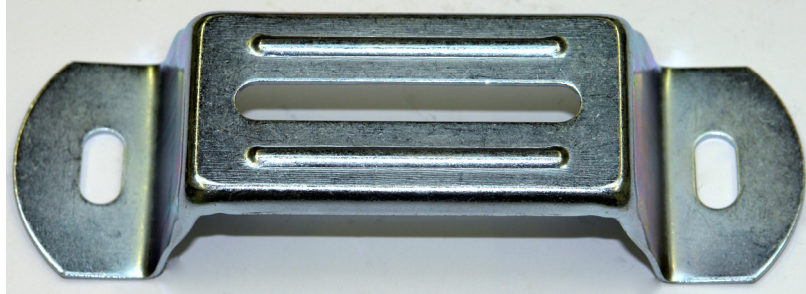

Figure 8.
1. Brackets fixed directly to the surface with screws or bolts as required. See Figure 8.